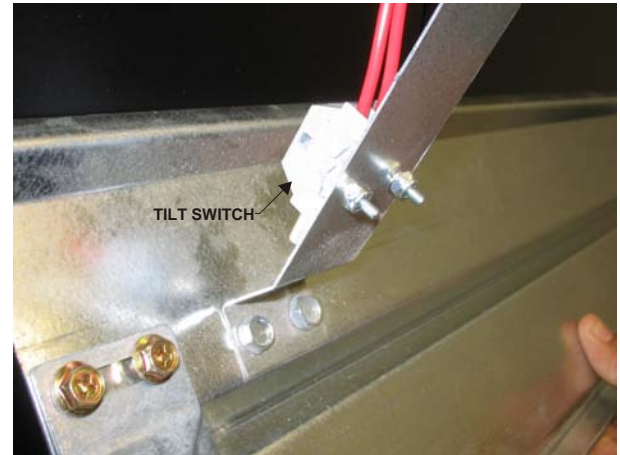

Figure 5
8. Locate the provided night set back "tilt switch" assembly (S168). Install this switch assembly to economizer damper assembly. Mount on the lower outside air damper blade, above the center "V" bend using provided self drilling screws. Position the switch as indicated in **Figure 5**. The tilt switch is to indicate when the outside air damper is in the closed position. The little can has a ball inside it. When you tip the end of the switch toward the leads downward, the ball rolls back toward the leads and makes contact. Tilting the end of the switch away from the leads down, causes the ball to roll back breaking the contact. The terminal strip provides a mean of mounting the tilt switch and a means of securing the switch assembly. Damper rotation trips the switch to determine ERS has a control signal to start.